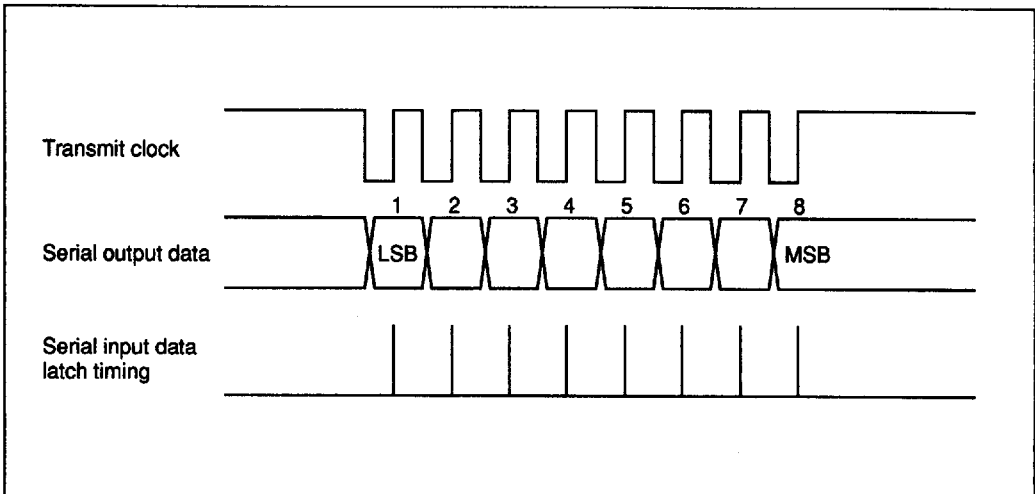

Figure 34 Serial Interface 1 Timing
**Serial 1 Data Register (S1RL: \$006, S1RU: \$007):** Eight-bit read/write register separated into lower and upper digits located at sequential addresses. Data in this register is output from the SO1 pin LSB first, in synchronism with the falling edge of the transmit clock, and data is input LSB first to the SI1 pin at the rising edge of the transmit clock. The input/output timing is shown in figure 34.